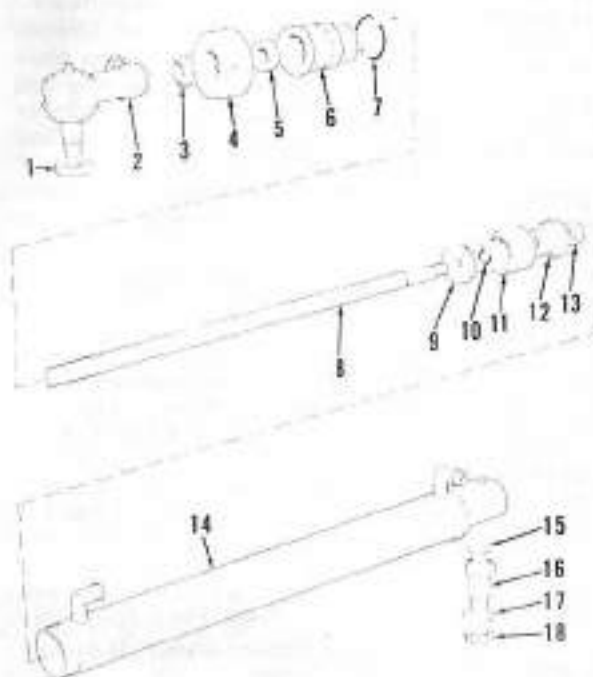

Fig. 29—Exploded view of steering cylinder used on 1210 4WD tractor. Cylinder is transversely mounted behind front axle. Also see Figs. 28 and 30.
46. Power steering cylinder for Model 1210 four-wheel drive tractors is transverse mounted behind front axle. Refer to Fig. 29 for an exploded view.
50. Refer to Fig. 29 for an exploded view of steering cylinder and proceed as follows: Clear cylinder of oil if necessary by moving piston rod through its complete stroke. Loosen ball joint clamp and unscrew ball joint from piston rod. Use a spanner wrench and remove cylinder end cover (4) and pull piston rod, piston and sleeve (6) from